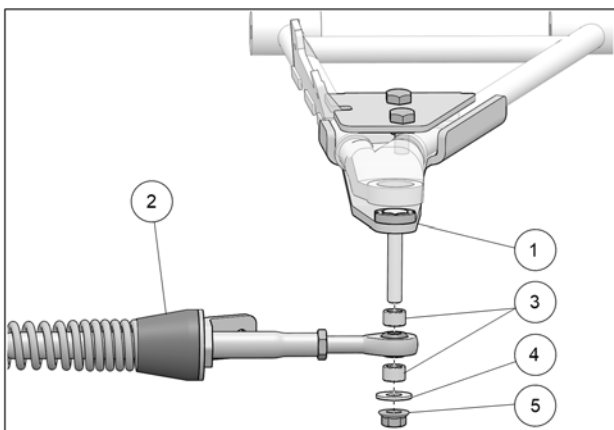

Fig. 18
- Attach the stabilizing rod (2) to the anchor bracket (1), using the two spacers (3), washer (4), and nut (5). Torque to 70 N•m [52 lb•ft]. Refer to Fig. 18